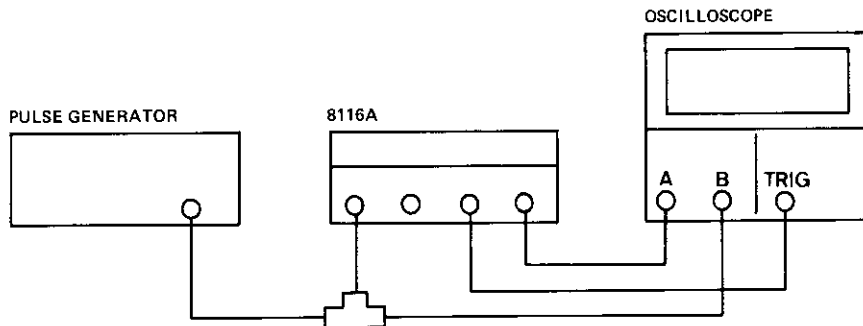

Figure 4-7. Test Setup for Burst Gate and Trigger Performance
1. Connect the equipment as shown in Figure 4-7.